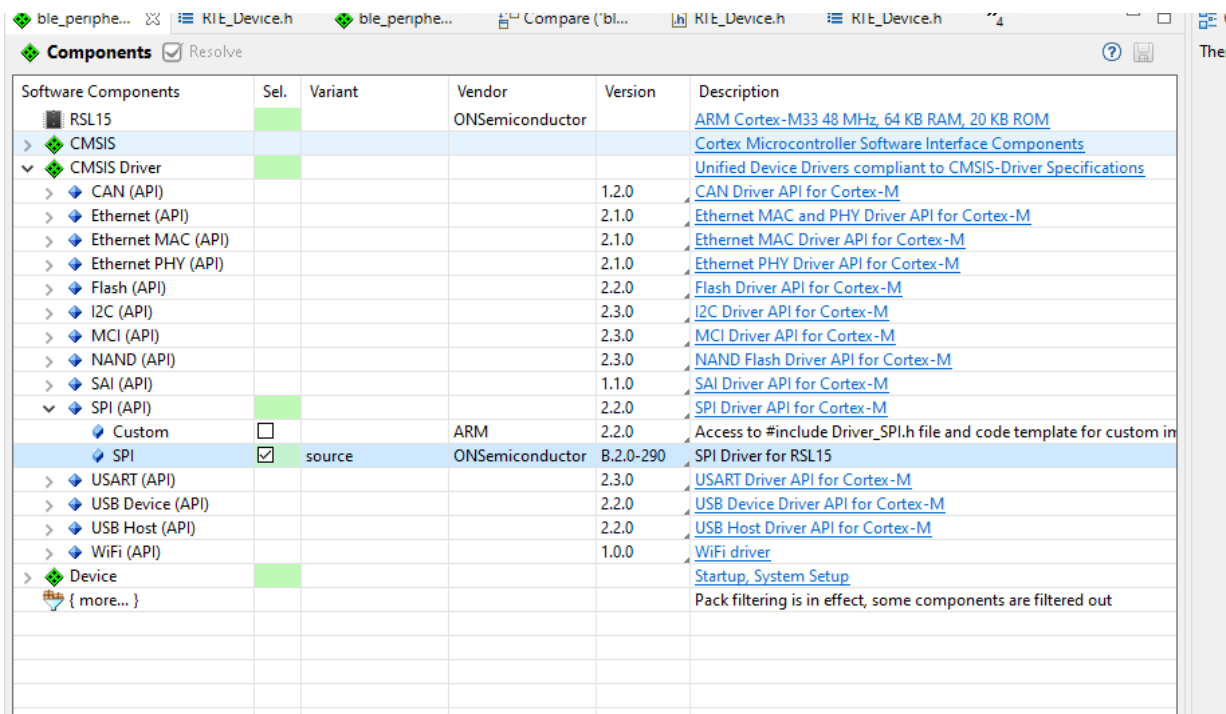

Figure 10. Selecting the Components
2. Select the desired components (for example, SPI), as shown in the "Selecting the Components" figure (Figure 10). Save the changes.